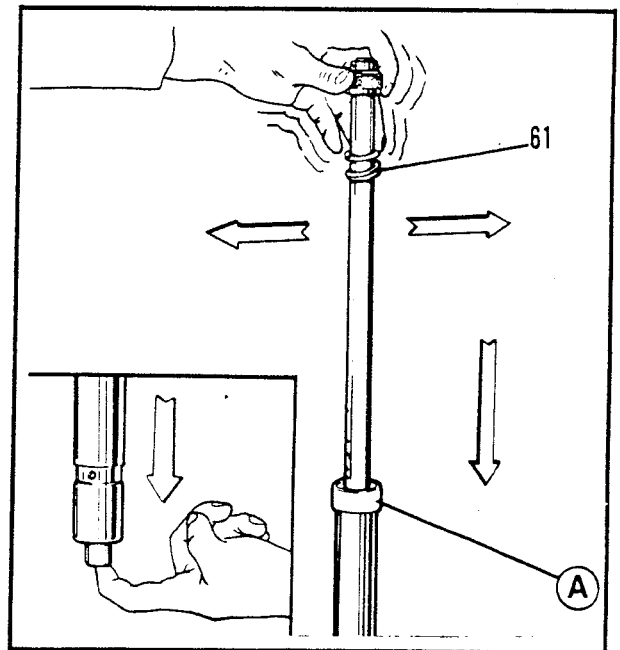

Figure 5-20. Damper Rod Assembly
- See Figure 5-20. To assemble, use a guide ring, (A), inserted on the top (Threaded part) of the tube. Install the rebound spring (61). Slide the damper tube into the fork tube, moving the fork tube itself until the piston meets with the counterbore.